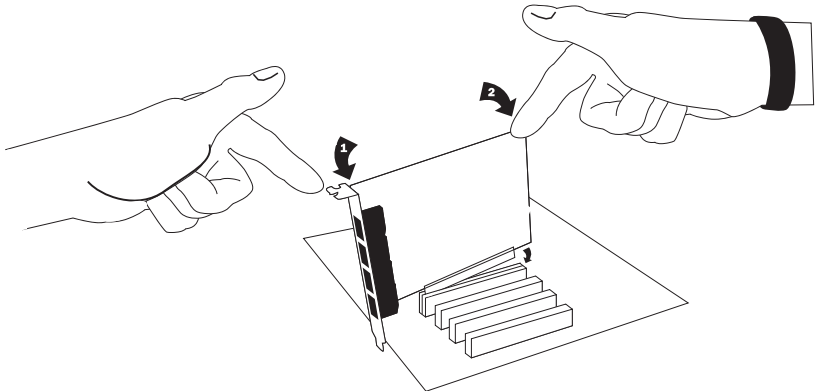

Figure 10: Insert the Card
4. Remove the bracket place holder and insert the card into a PCI or PCI Express slot. See Figure 10 for an example of card installation.